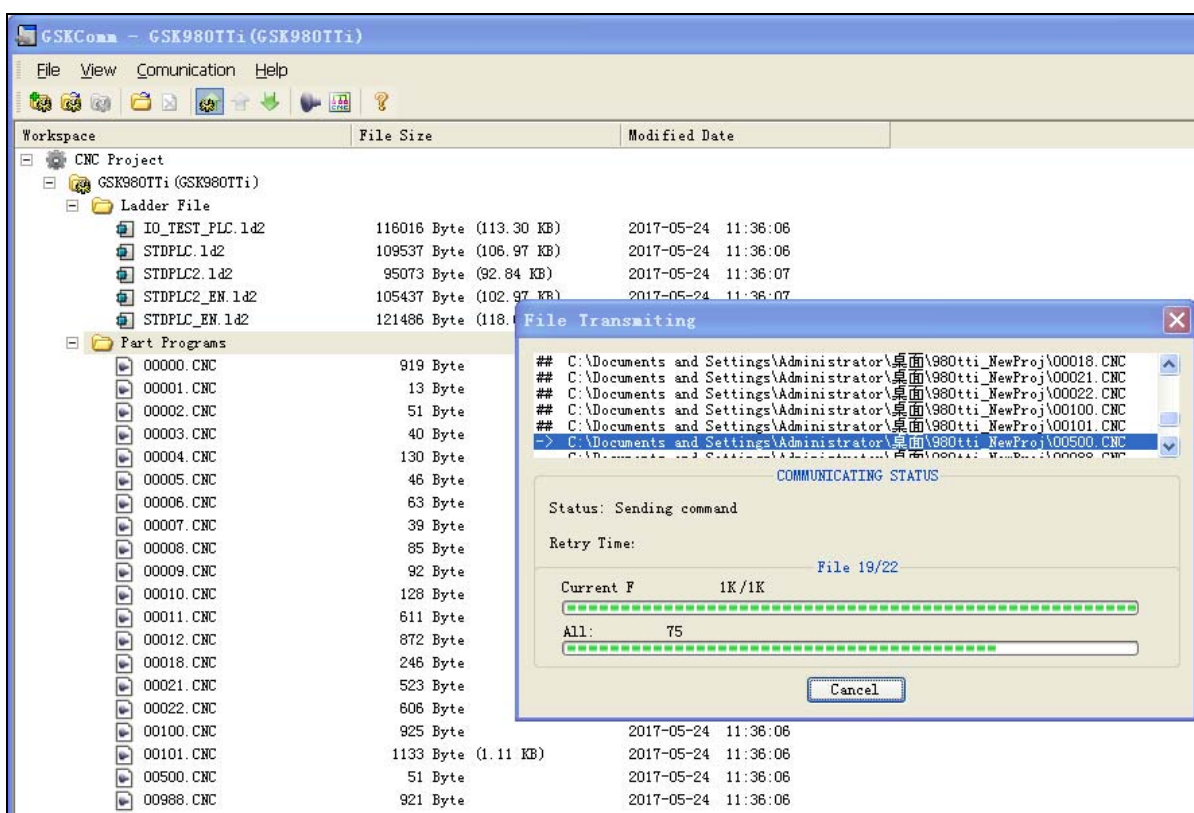

Fig.2
- ② then press [start sending], and the file is started to send to the CNC as follows Fig.2;